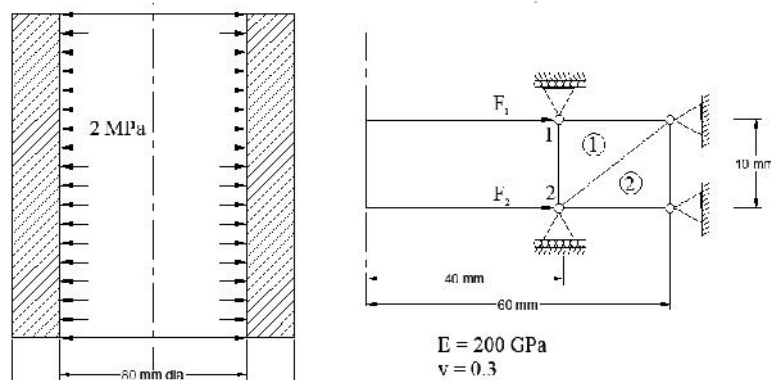

Fig.3
- 13 A long cylinder of ID 80 mm and OD 120 mm snugly fits in a hole over its full length. The cylinder is then subjected to an internal pressure of 2 MPa. Using two elements on the 10 mm length, as shown in Fig.3, calculate the displacements at the inner radius.